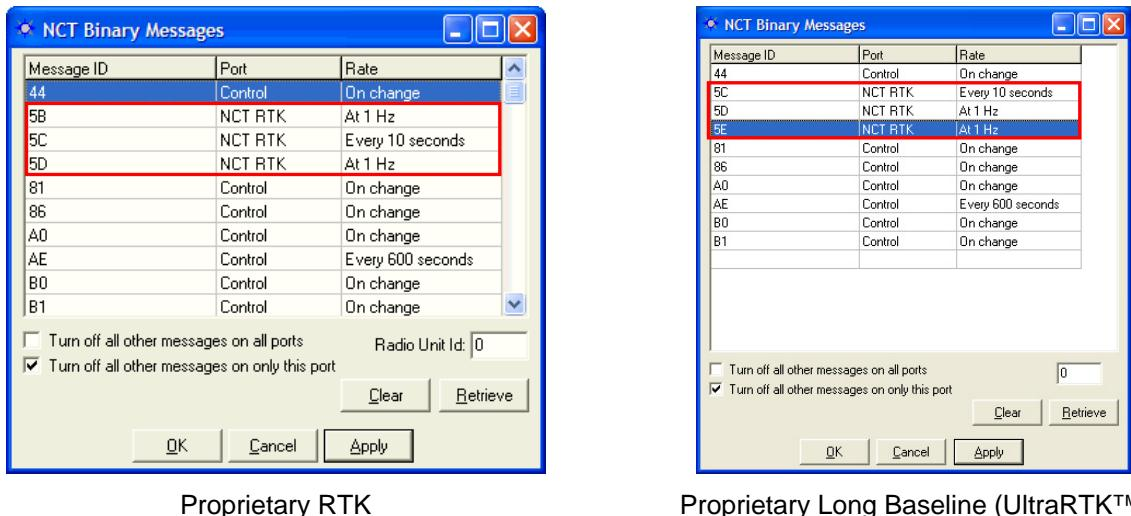

Figure 36: NCT RTK Scheduled Messages
14. Select *Receiver > Messages > NCT output* from the menu bar. The *NCT Binary Messages* window opens (see Figure 36).
Refer to Figure 36 for the steps below: